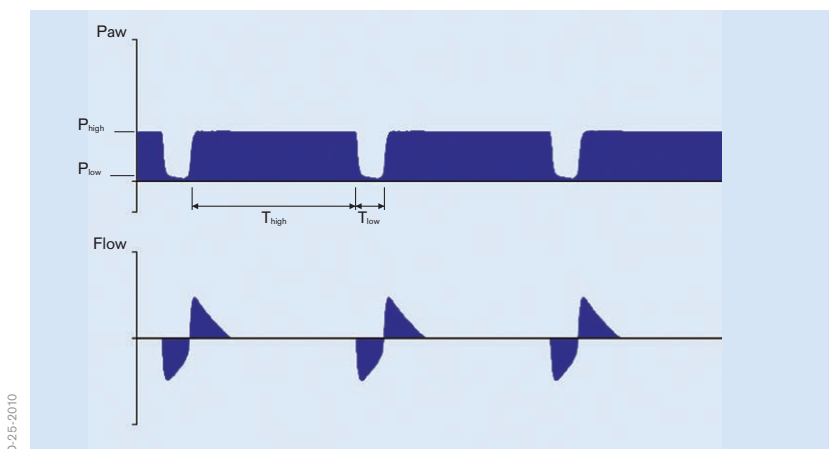

Figure 27: PC-APRV
- spontaneous breathing under continuous positive breathing pressure with brief pressure relief times (Figure 27)